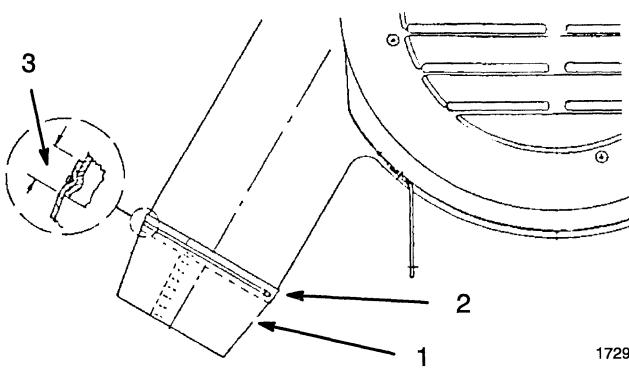

Figure 14
3. Slide large opening of seal over inlet of top assembly (Fig. 14). Place seam to the bottom and overlap seal 1 in. onto top.
4. Secure with tie strap over seal in groove of top assembly inlet. Pull tie strap tight and cut off loose end (Fig. 14).